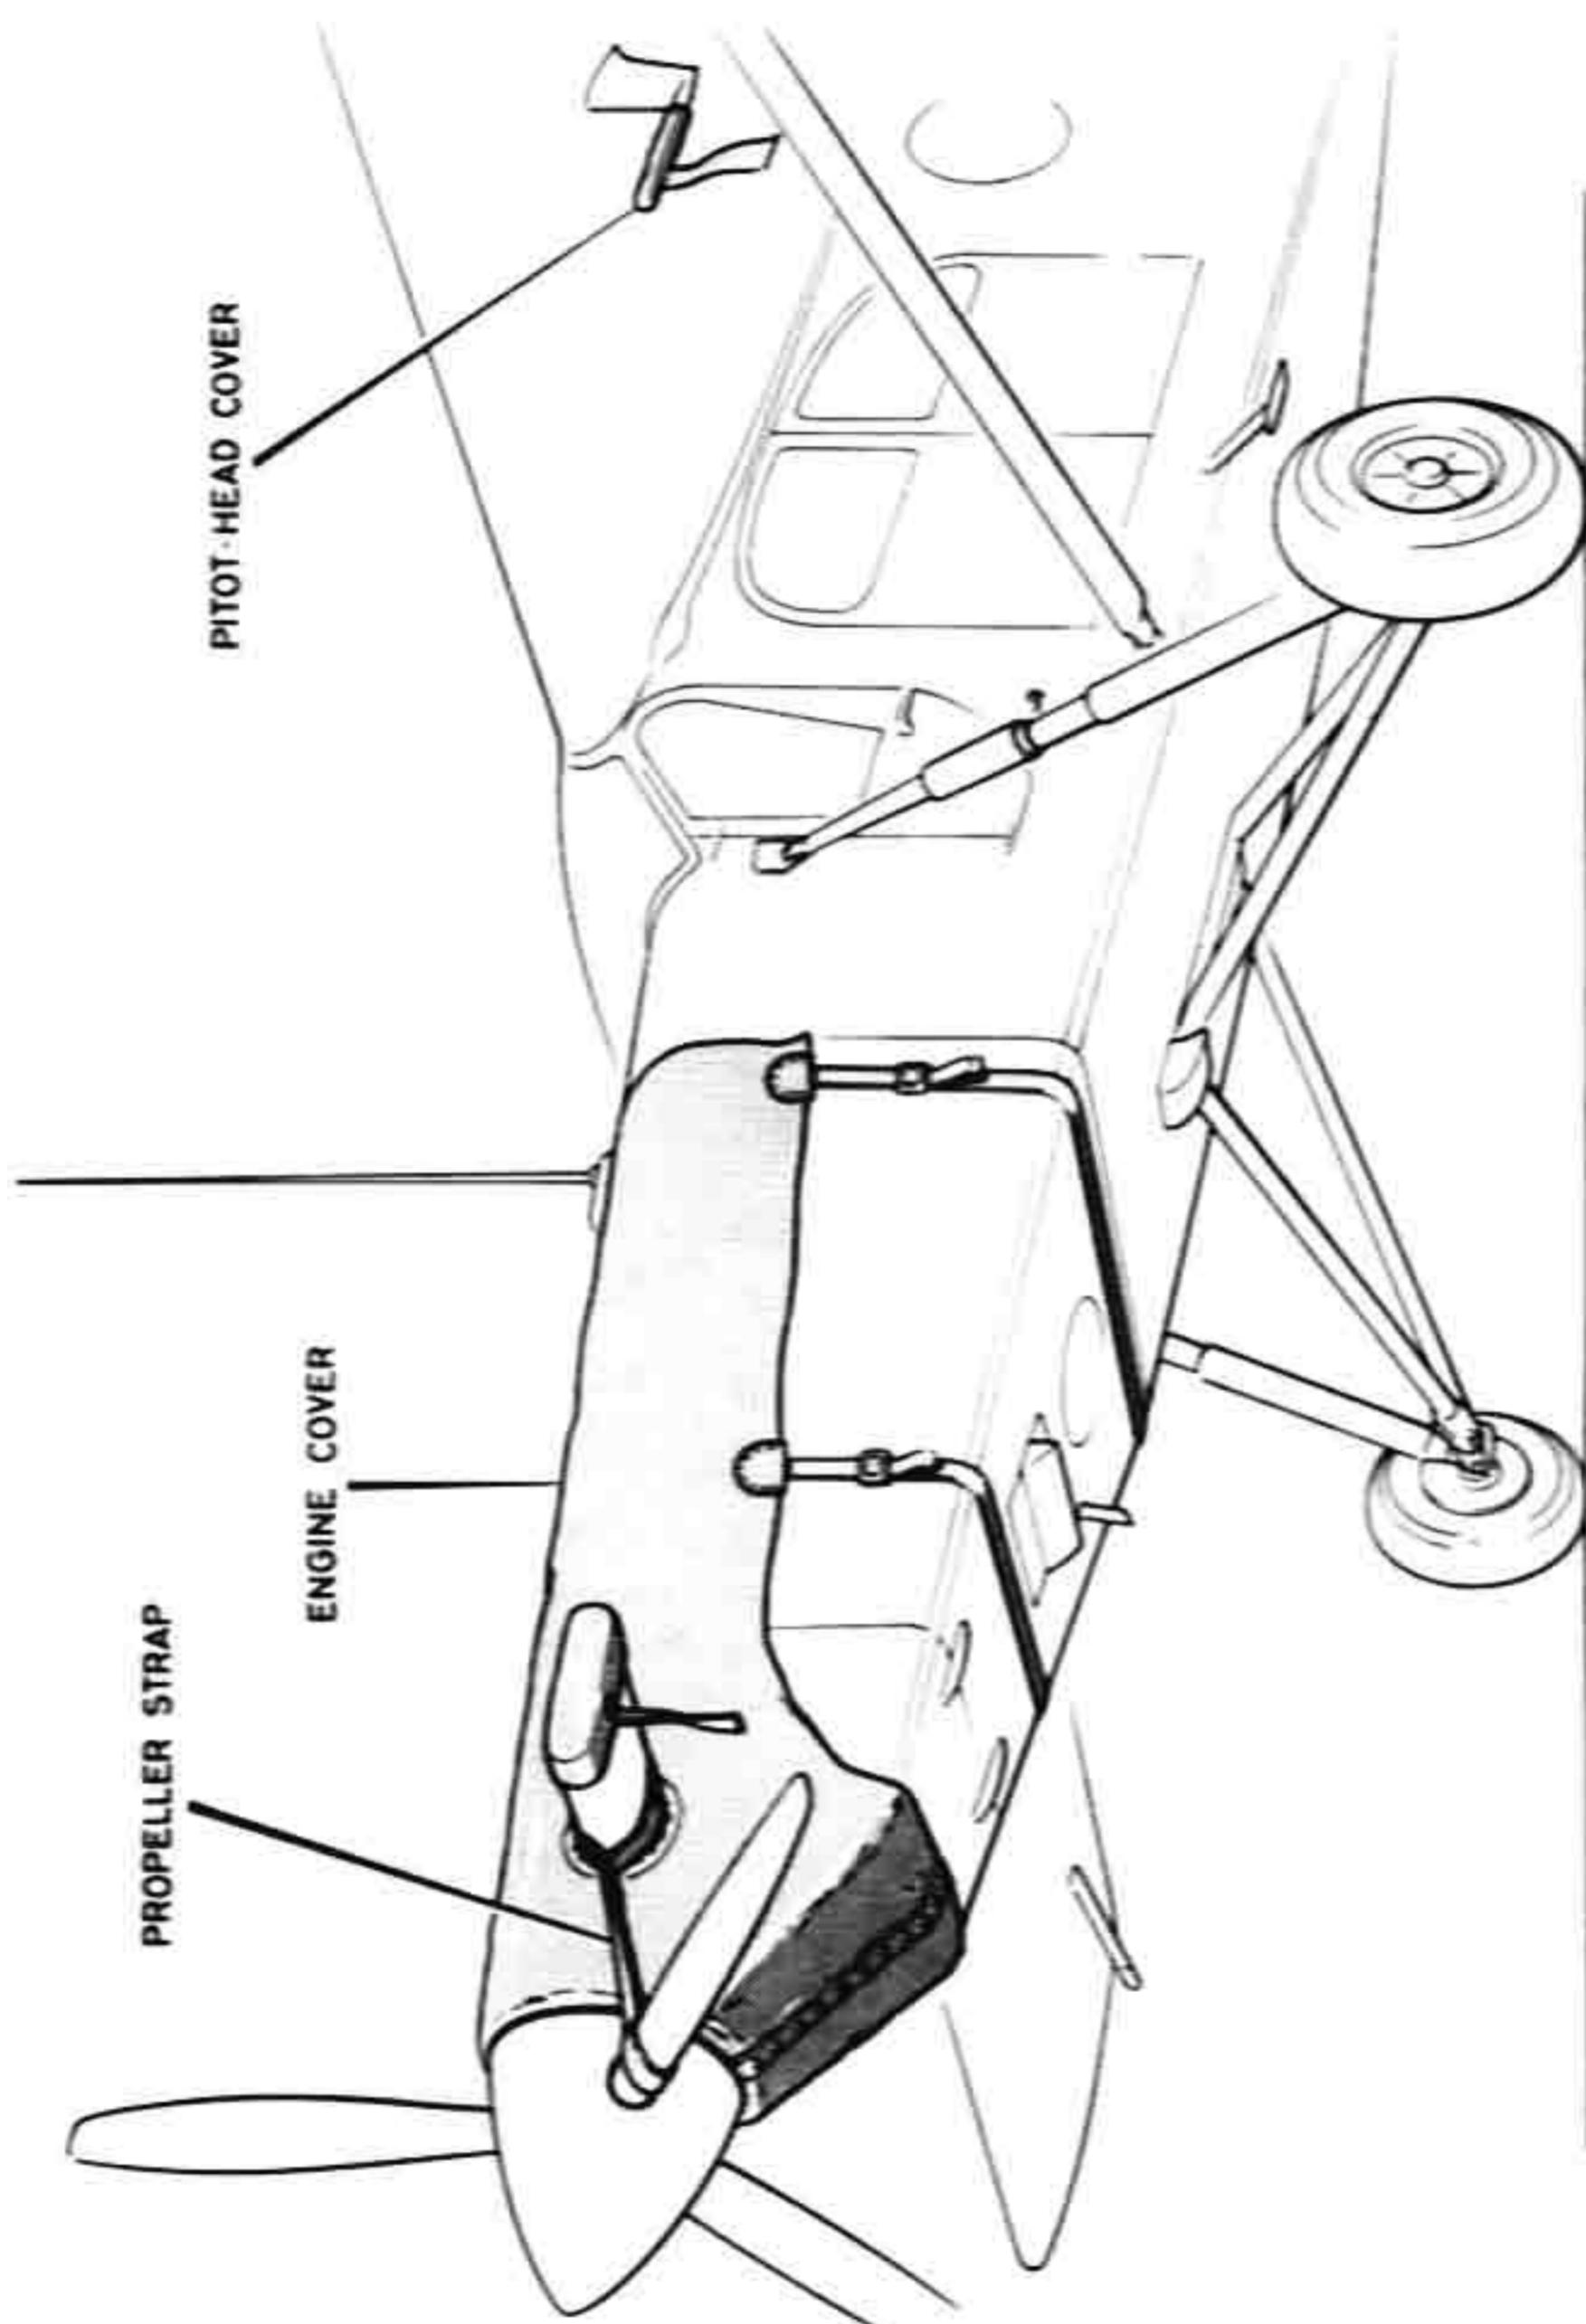

FIG. 1-57 EXTERNAL COVERS
- Fit the engine cover and pitot-head cover to the aircraft and secure with the attached straps and buckles. A cut-out is provided to fit around the ARC-54 front antenna coupler so that the antenna rod need not be removed. (Ref. Fig. 1-57).